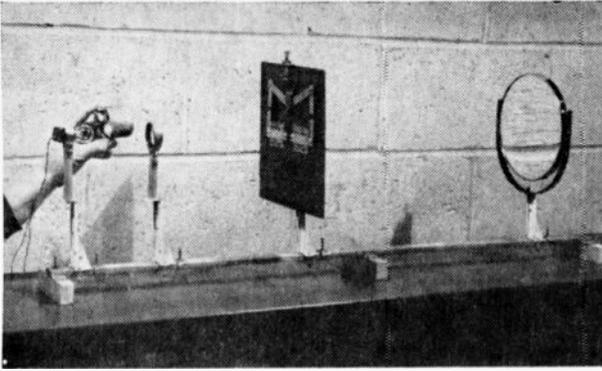

FIG. 11. Light source (shade removed), lens, adjustable slit, mirror in approx. positions. Transformer is unseen.
(Fig. 11). Projecting 6-32 bolts fastened to the ends of the brackets slip into the holes in the mirror frame. Remember to clean the mirror carefully before starting Schlieren experiments.
**Experimental Procedure.** Fig. 11 shows the approximate positions of the optical units on the first bench. The exact positions